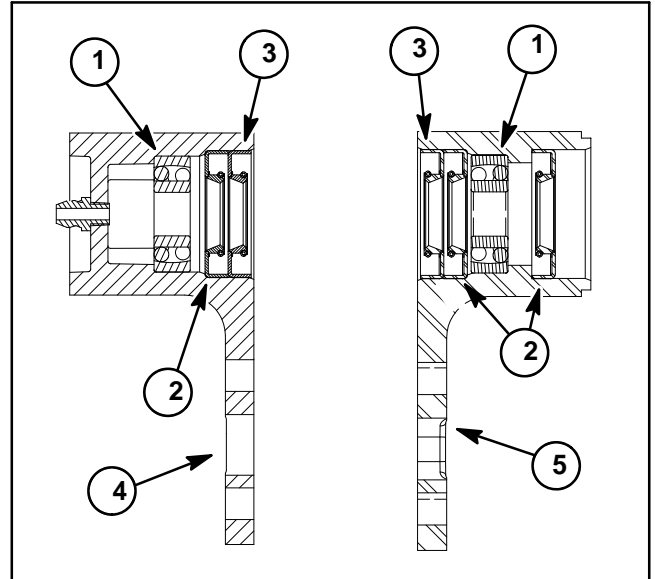

Figure 42
2. If seals or bearings were removed from brush bearing housings, install new components noting proper orientation as shown in Figure 42.